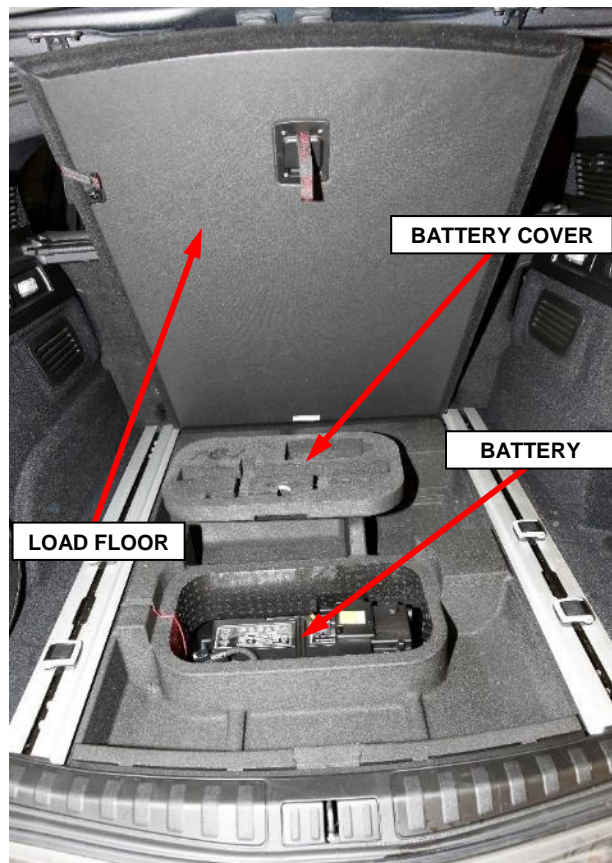

Figure 1 – Battery Location
15. Lift and support the rear compartment load floor, then remove the battery cover (Figure 1).